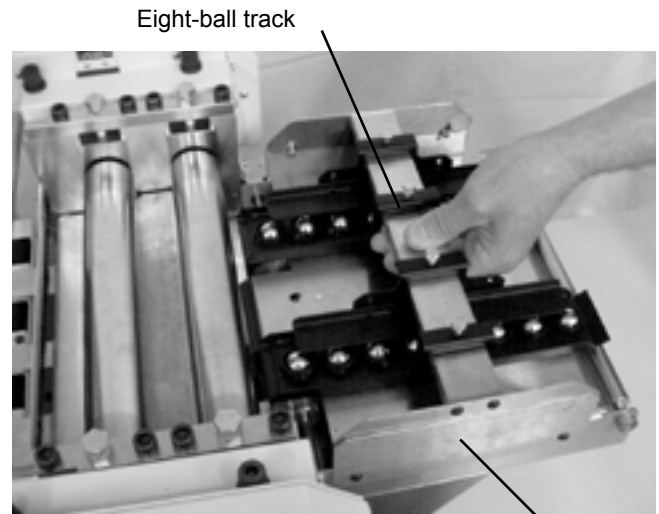

Fig 9
9. Place the eight ball track onto the folder/sealer transfer deck. Line the notches in the track up with the studs on the deck and set the deck into place (Fig. 9).